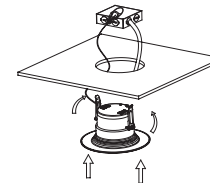

Fig. 9
- Step 4: Squeeze the two housing clips so they are in an upright position and insert lamp into opening (Fig.9).